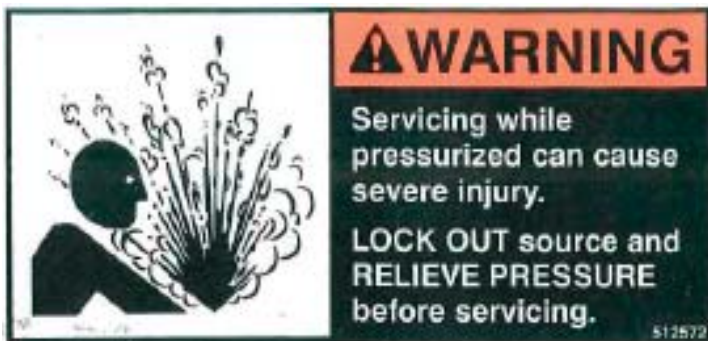

FIGURE 3-6
1. Always relieve all hydraulic pressure of the base machine by working the controls in all directions with the engine off before beginning work on any hydraulic component. See **Figure 3-6**.